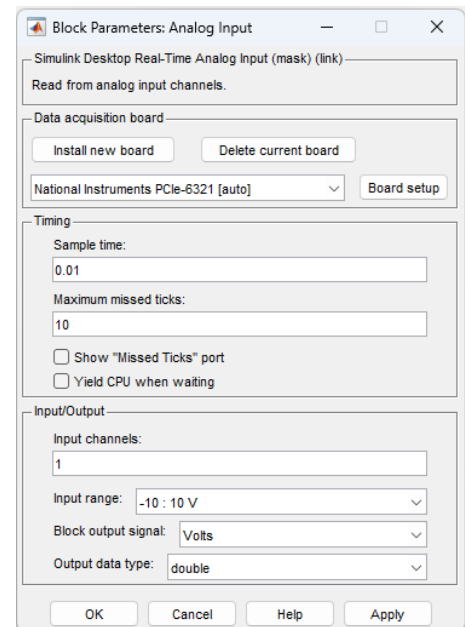

Figure 11 – Analog Input Window
9. Select the number of input channels as shown in Figure 11.